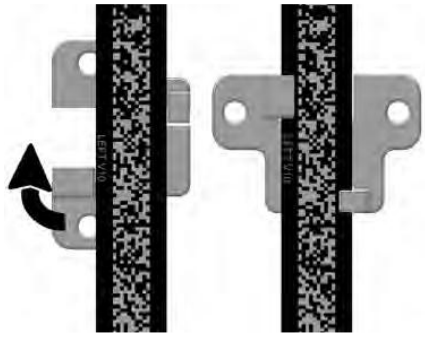

Figure 9: Tape Clip Insert Example
- Affix an 18" length of Unistrut to the top of guide rail as shown in figure 9.
- Position the Upper Tape Mount Assembly 9.36" from the surface of the guide rail to the center of the 3/8" bolt as shown in figure 9.